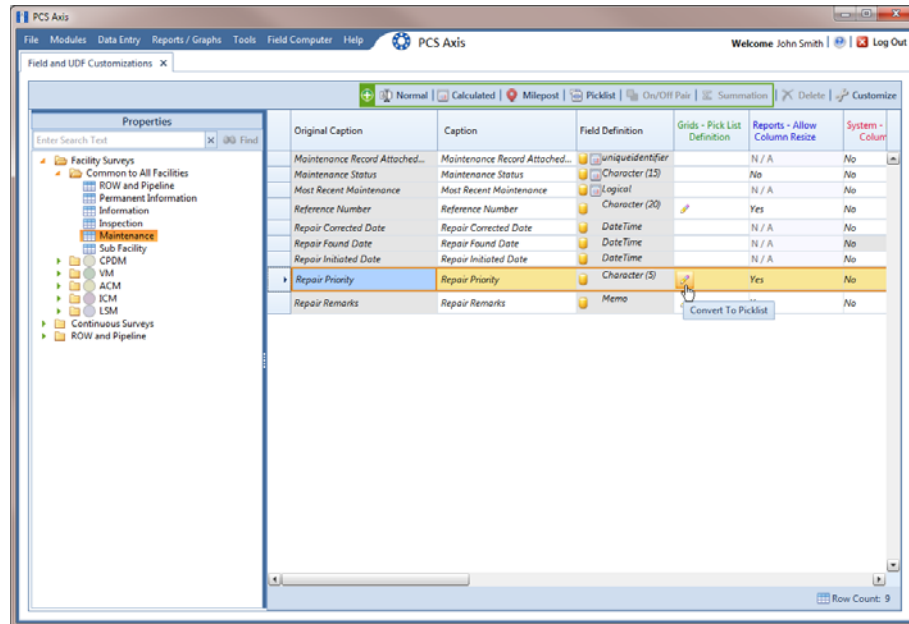

Figure 3-41. Field and UDF Customizations
For example, double-click **Facility Surveys** > **Common to All Facilities** > **Maintenance** to display a grid with fields and property settings related to all *Maintenance* data entry grids (Figure 3-41).
- Convert the selected data entry field to a *Standard Picklist* field. Click the edit icon  in the *Grids-Picklist Definition* field for the data entry field selected earlier, such as *Repair Priority* (Figure 3-41, page 86).